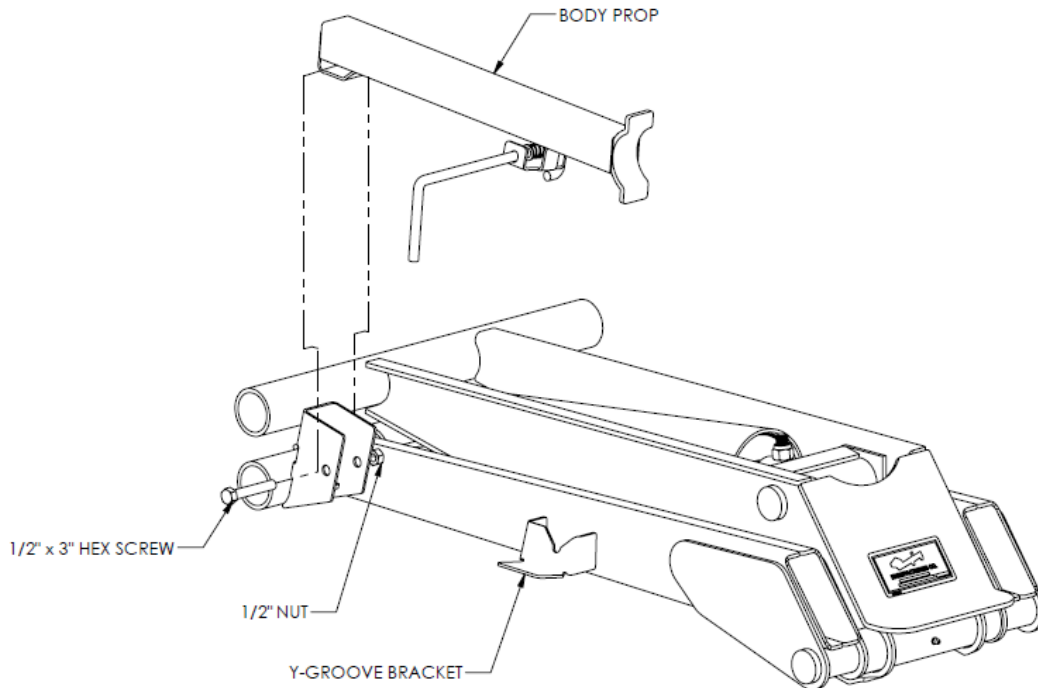

FIGURE 1
1. Insert the body prop into the body prop bracket, making sure that the handle hook is pointing towards the hoist. (*Figure 1*)